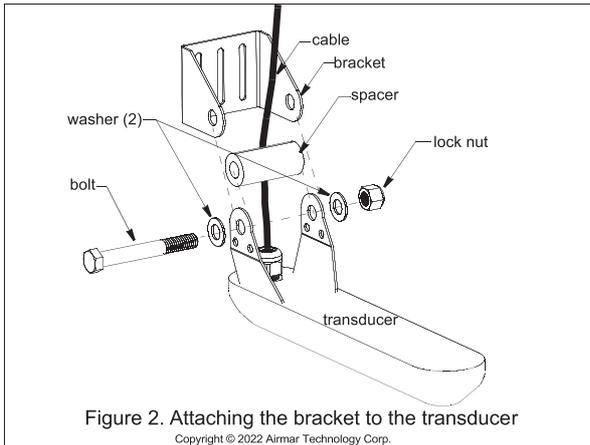

Figure 2. Attaching the bracket to the transducer
1. Slide a washer onto the bolt (Figure 2).
3. Reinstall the transducer to the bracket (Figure 2).
1. Using the vertical adjustment space in the bracket slots, slide the assembly up or down until the bottom inside corner of the transducer projects 0–3mm (0–1/8") below the bottom of the hull (Figure 1). When you are satisfied with the position of the transducer, tighten the three bracket screws. For clear access to the screws, remove the transducer assembly from the bracket (Figure 2). *When reattaching, be sure to include the spacer.*